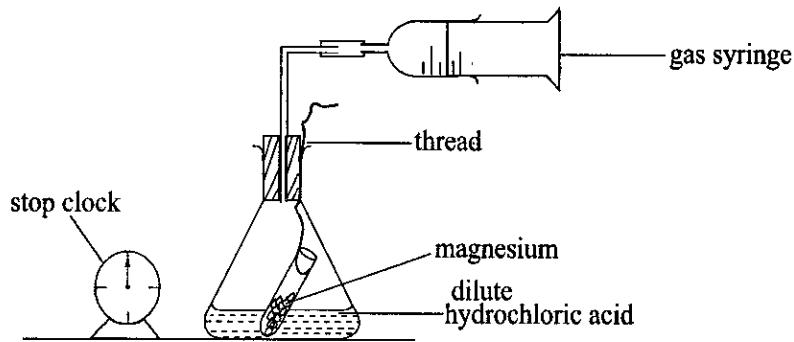
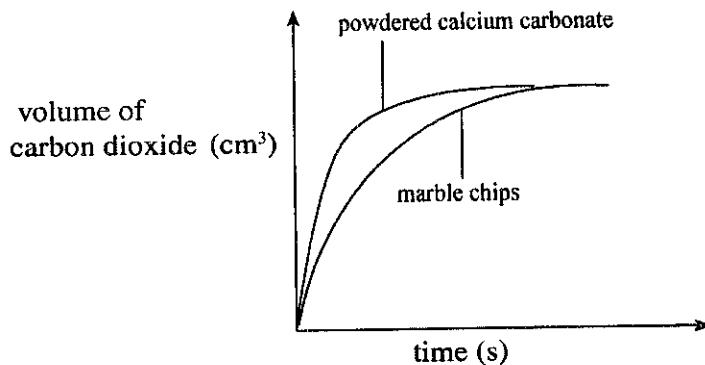

Fig 11.1 Determination of rate of reaction
Fig 11.7 Graphs of volume of carbon dioxide against time
A known mass of magnesium and a known volume of dilute hydrochloric acid in a test-tube tied with a thread, are placed in a conical flask and the experiment is set up as shown in figure 11.1. The stopper is opened for a moment so that thread is free. The test-tube drops pouring hydrochloric acid into the conical flask. At the same time, the clock is started. The volume of hydrogen in the syringe is recorded at regular intervals until the reaction is complete.
Place 100 cm³ of 0.1 M hydrogen peroxide in a conical flask. Add 0.5 g of manganese(IV) oxide to the hydrogen peroxide in conical flask. Then set up the experiment as shown in figure 11.1. record the volume of oxygen in the syringe at regular intervals until the reaction is complete. Repeat the experiment using 1 g of manganese(IV) oxide. When the
Pour 20 cm³ of 1 M hydrochloric acid in a test-tube. To the conical flask add 10 g of calcium carbonate lumps and then set up the experiment as shown in figure 11.1. Record the volume of carbon dioxide in the syringe at regular intervals until the reaction is complete. Repeat the experiment using the same mass of powdered calcium carbonate. When the graphs of volume of carbon dioxide against time for both powdered calcium carbonate and calcium carbonate lumps, are plotted using the same axes, they appear as shown in figure 11.7.